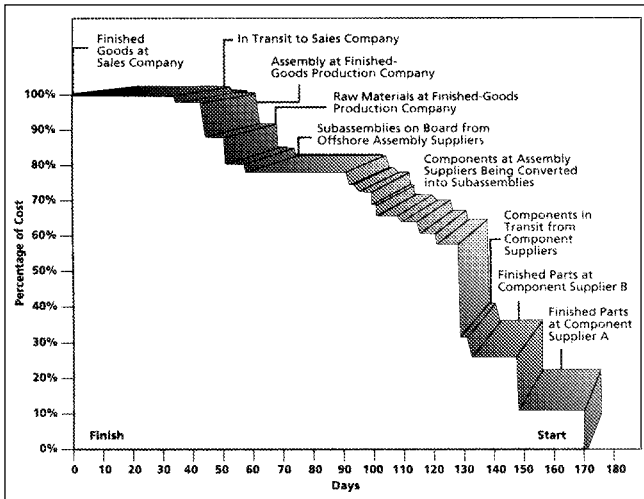

Figure II-3.1 Buildup of Inventory Value
- The lead times within each company were tight, but the overall, or “interconnective,” lead times were high. Although the average product life cycle was a year, the material flow started almost 165 days before the finished product reached the distributor. The horizontal lines in Figure II-3.1 grow longer as the products move closer to their completion dates and represent no value being added to the product. The most surprising result for the companies involved in this supply chain was that the theoretically best inventory days of supply given current policies was 113 days.